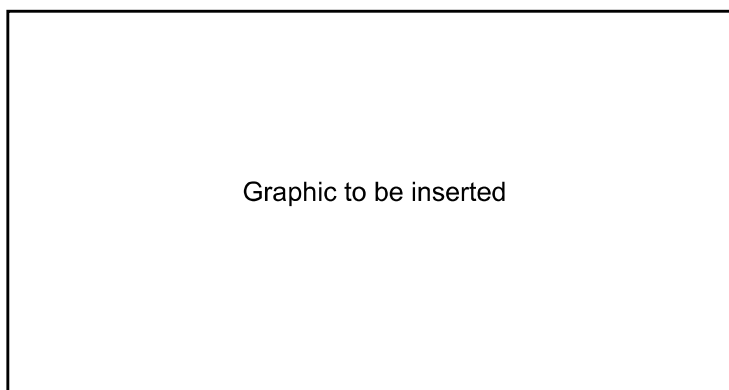

Figure 1: **Expected Directional Dependency**
- f. **Directional Dependency at 60 keV (²⁴¹Am or 65 keV ISO X-ray Quality).** Expose the instrument to ²⁴¹Am or 65 keV ISO X-ray Quality radiation field at a dose rate of 25µSv.h⁻¹ the expected polar responses are shown in Figure 1.